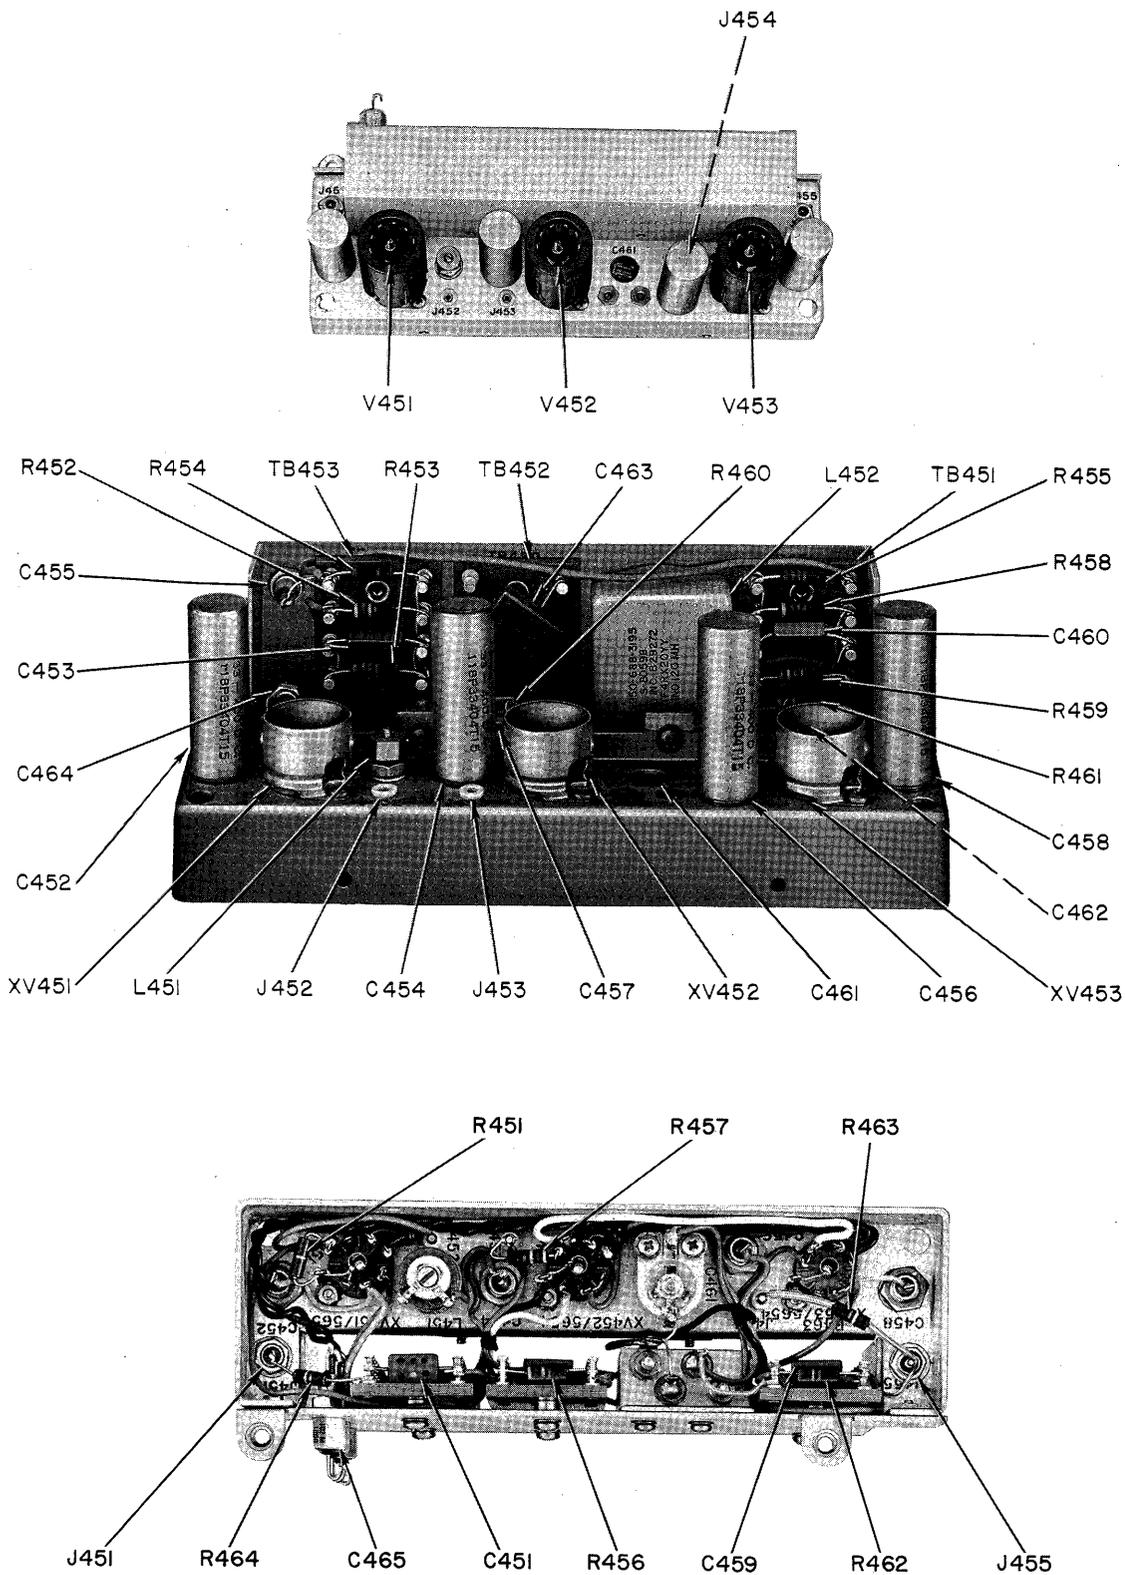

Figure 5-58. Frequency Divider, Location of Parts
b. ACCESS.—The frequency divider is located in the lower converter deck. Figure 5-58 shows the location of parts.
- (1) Seating of tubes V451, V452, and V453 in their sockets
- (2) Cable connections at J451 and J455
- (3) Soldered connections at chassis feed-through terminals.